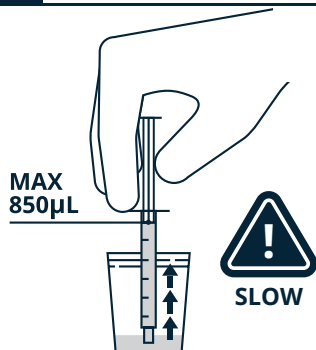

Figure 1. Draw 850µL of the sample.
4. Use a 1mL syringe to slowly draw an 850µL aliquot of the liquefied semen specimen (sample). If there is insufficient sample volume, add media to bring volume to 850µL (Figure 1).